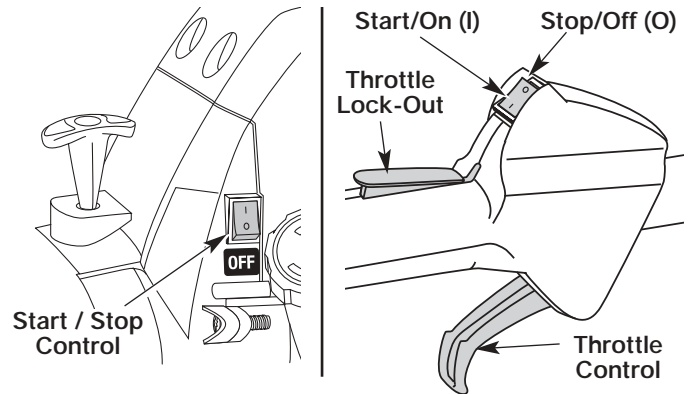

Fig. 20
3. Make sure the On/Off Stop Control is in the ON (I) position (Fig. 20).